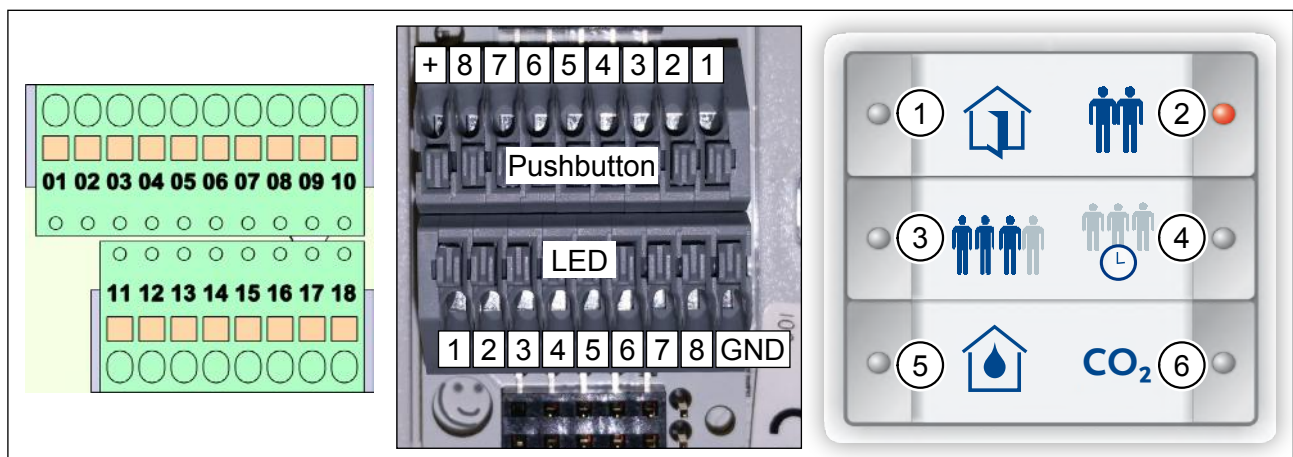

Fig. 7: Terminal blocks on M-WRG-S/Z-T-FC, terminal blocks on InControl pushbutton sensor, M-WRG-S/Z-T-FC insert sheet
- ▶ After wiring, place the insert sheet (Fig. 7) in the InControl pushbutton sensor.